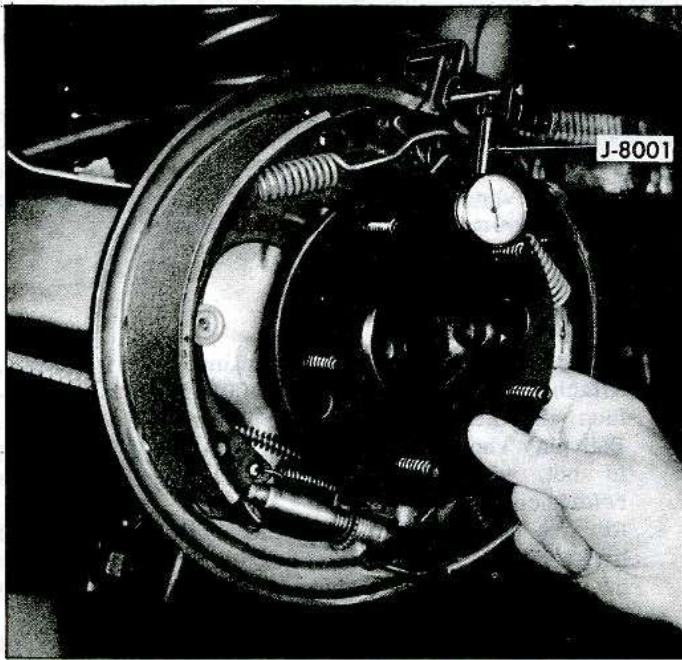

Fig. 63—Measuring Wheel Bearing End Play
3. Attach dial indicator (Tool J-8001) to adjacent surface and measure wheel bearing end play (fig. 63). End play should be between .001"-.006". If reading is not within limit record reading for future reference.